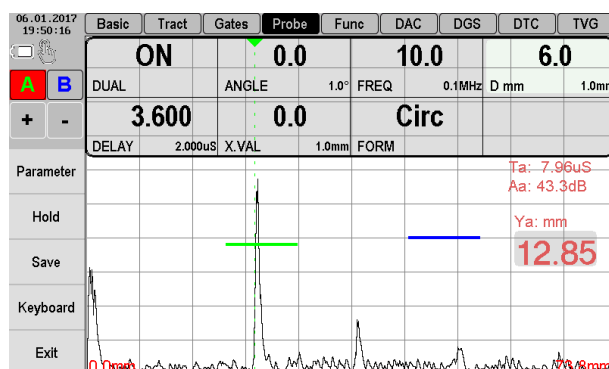
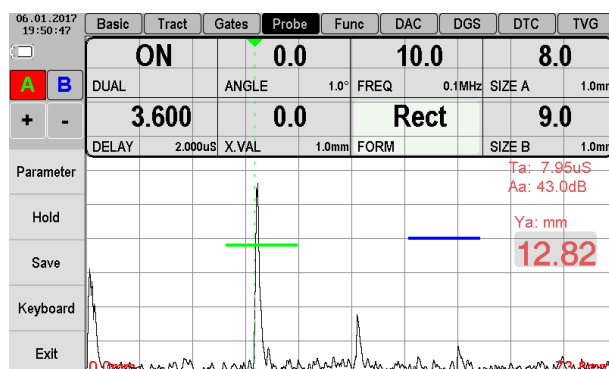

Figure 2.19 – Setting the diameter of the piezo-electric crystal plate - «FORM» parameter
Figure 2.20 – Setting the sides dimensions of the quadrangular piezo-electric crystal plate – SIDE A and SIDE B parameters
- Form of the piezo-electric crystal plate «FORM», could be rectangular «Rect» or circle «Circ». In dependence with selected form user can input diameter of the plate (Figure 2.19), or sides dimensions (Figure 2.20). These parameters are necessary for building DGS diagrams (see p.2.4.10).